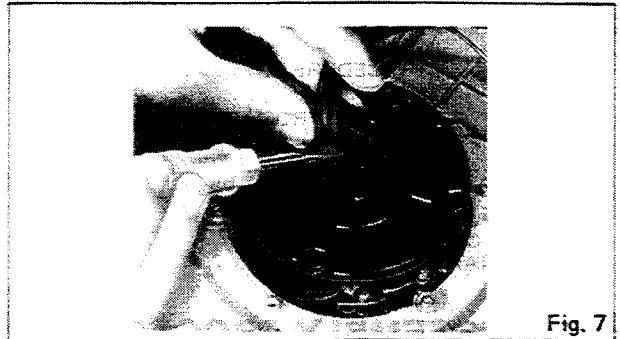

Fig. 7
18. Remove phono cord clamper as shown in Fig. 7.